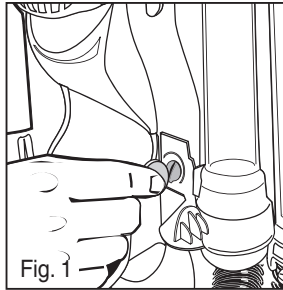

Fig. 1
Press firmly until it locks (Fig. 1).
- 1) For bare floor cleaning, push brush roll control lever firmly to lock in 'bare floor' setting to stop brush roll (Fig. 1).
- 1) Use a coin to turn twist lock to 'unlock' (Fig. 1).
- 5) Adjust small tube until twist lock is in proper position against back of vacuum. Use a coin to turn twist lock to 'lock' (Fig. 1).